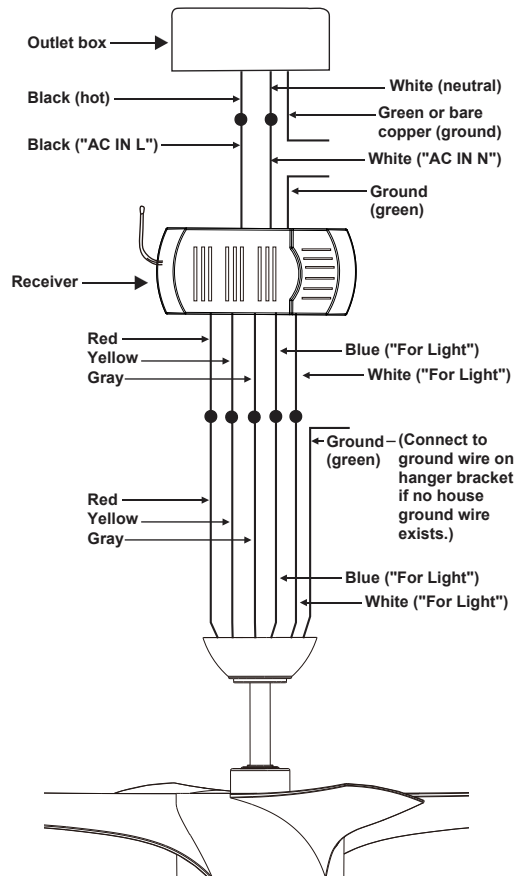

Figure 12
Step 2. (Fig. 12) Motor to Receiver Electrical Connections: Connect the Red wire from the fan to Red wire from the receiver. Connect the Yellow wire from the fan to the Yellow wire from the receiver. Connect the Gray wire from the fan to the Gray wire from the receiver. Connect the Blue wire from the fan to the Blue wire marked "For Light" from the receiver. Connect the White wire from the fan to the White wire marked "For Light" from the receiver. Secure wire connections with the plastic wire nuts provided.
Step 3. (Fig. 12) Receiver to House Supply Wires Electrical Connections: Connect the Black (hot) wire from the ceiling to the black wire marked "AC in L" from the receiver. Connect the white (neutral) wire from the ceiling to the white wire marked "AC in N" from the Receiver. Secure the wire connections with the plastic wire nuts provided.
Step 4. (Figure 12) If your outlet box has a ground wire (green or bare copper) connect it to the fan ground wires and the receiver ground wire; otherwise connect the hanging bracket ground wire to the fan and the receiver ground wire. Secure the wire connection with a plastic nut provided. After connecting the wires, spread them apart so that the green and white wires are on one side of the outlet box and other wires are on the other side. Carefully tuck the wire connections up into the outlet box.